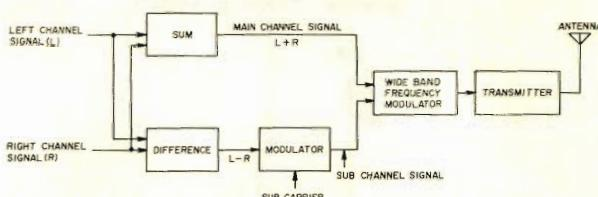

Fig. 11 FM Broadcasting System Diagram
As shown in Fig. 11, for FM broadcasts, the sum signal ($L+R$) consists of left signal (L) and right signal (R) and the audio frequency band of this signal in its original form is frequency modulated.